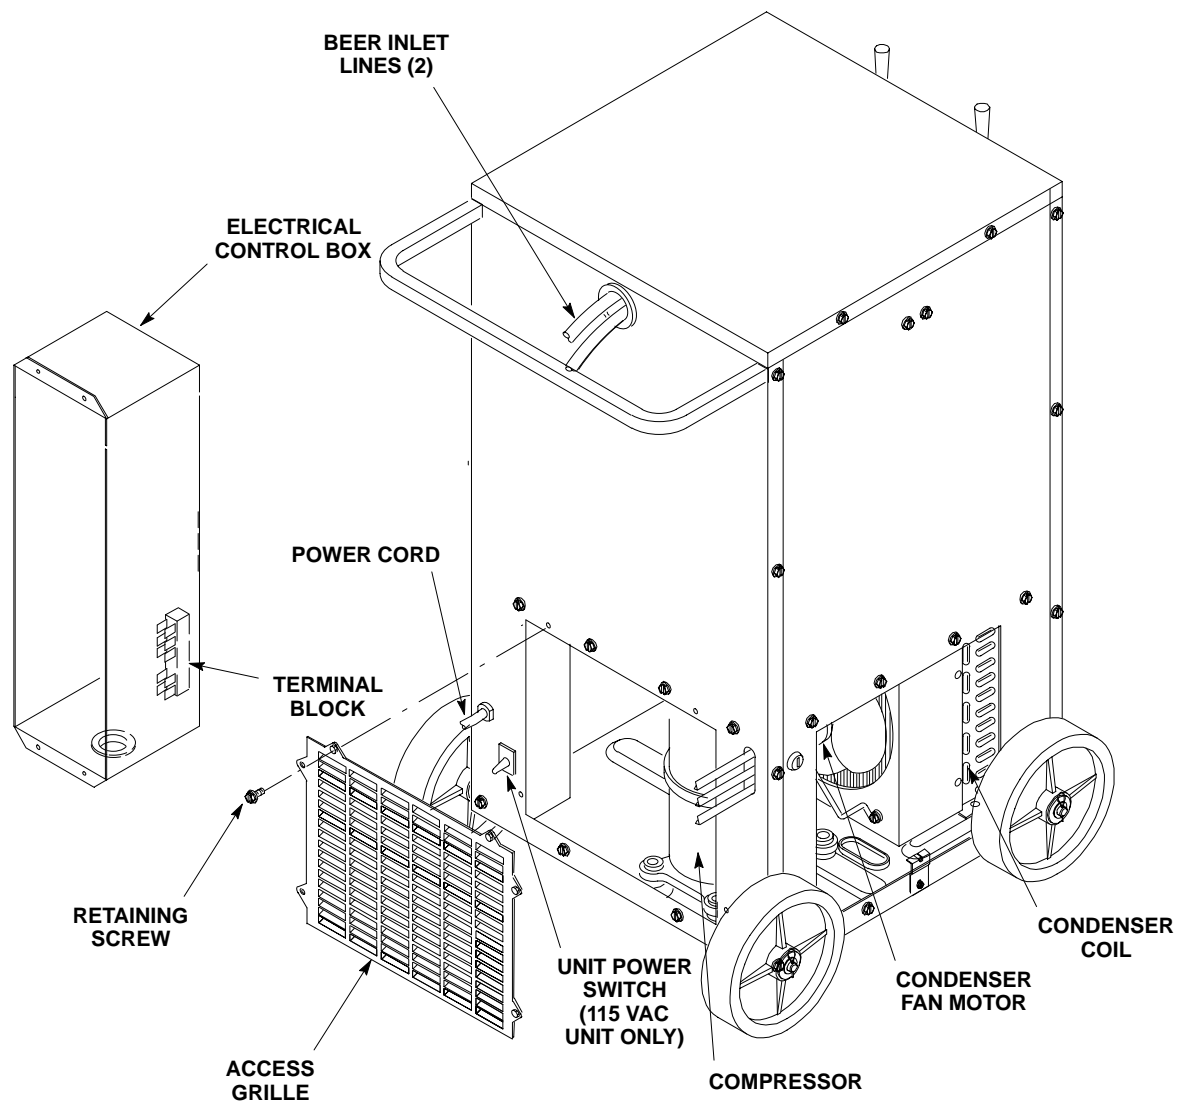

FIGURE 5. PARTS IDENTIFICATION
1. Check Unit condenser coil (see Figure 5) for accumulation of dust, lint, or grease and if necessary, clean the coil as instructed. Restriction of air flow through the condenser coil will decrease cooling efficiency of the Unit.
(see Figure 5)